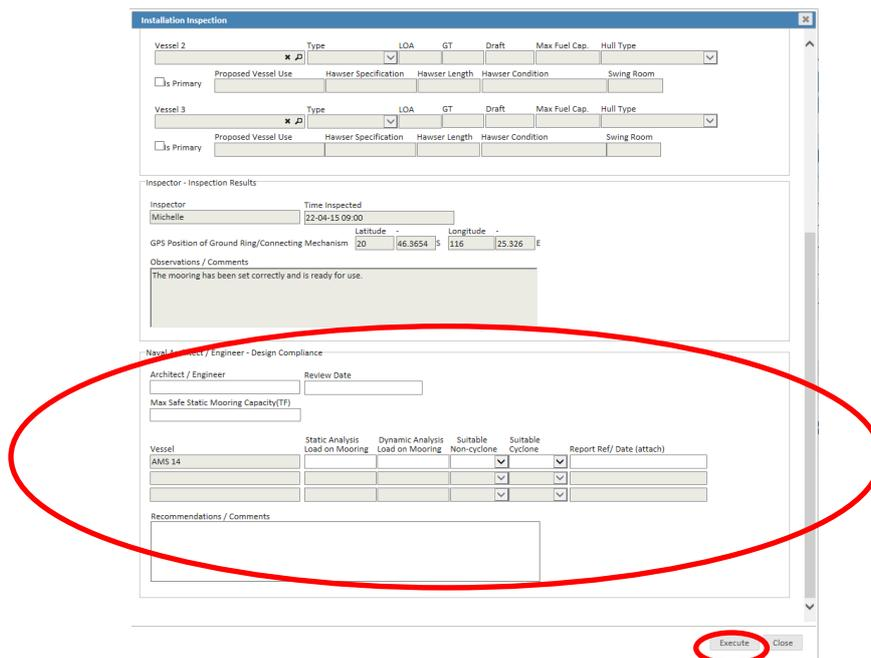

Figure 4.2
- Write any concerns in the 'Recommendations/Comments' section (as shown in figure 4.2, 4.3 and 4.4) and submit to owner (as described under heading 4.1 below). Submit report to owner.